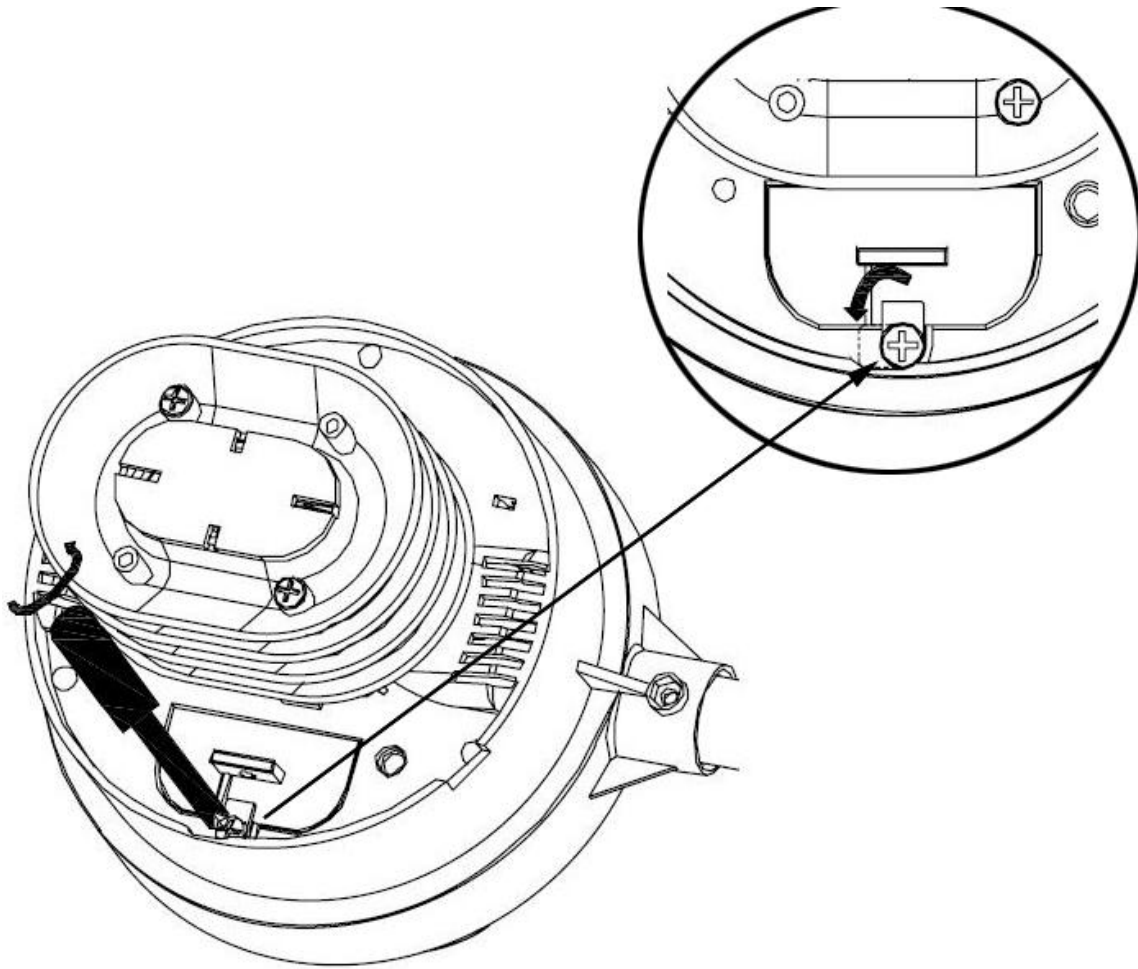

Figure 3
1. **Insert batteries into the thermo-hygrometer / rain gauge transmitter.** Locate the battery door on the thermo-hygrometer / rain gauge transmitter, as shown in Figure 3. Turn the set screw counter clockwise to loosen the screw, and rotate the sheet metal bracket to open the battery compartment.